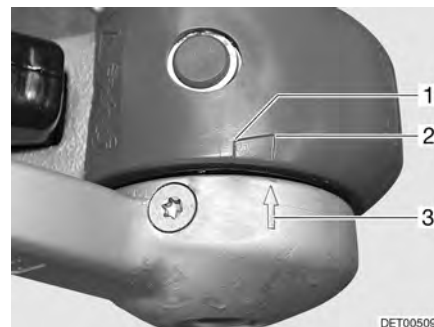

Fig. 196 Friction pads
- If the arrow on the pressure pad (Fig. 196,3) is in front of or on the marked surface (Fig. 196,2), then the friction pads are still in good condition.
- If the arrow on the pressure pad is within the marked surface (Fig. 196,1 to 2), then the friction pads are slightly worn.
- If the arrow on the pressure pad is at the end of the marked surface (Fig. 196,1) or exceeds it, then the friction pads are worn.